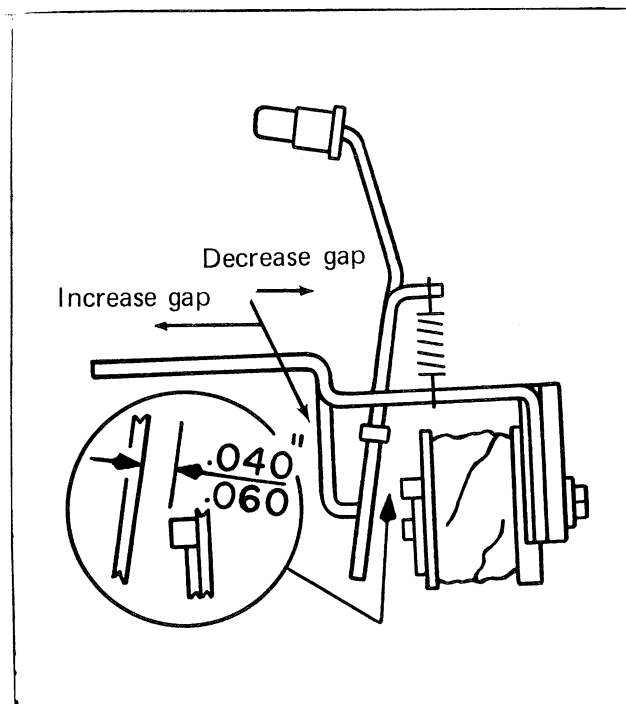

Figure 92
2. Bend stop finger as required to maintain a .040 to .060 (a U.S. penny is .055 thick), see Figure 92.